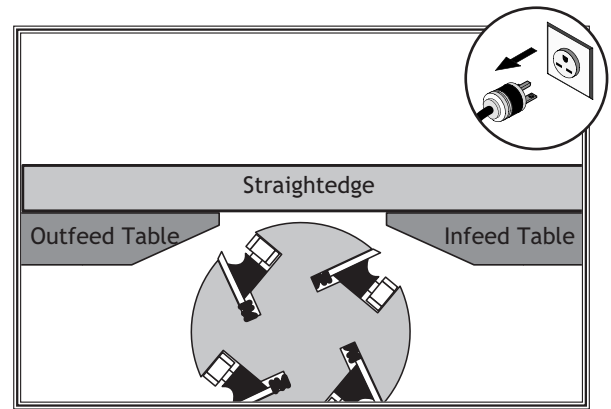

Figure 53. Infeed and outfeed tables set evenly.
3. Place the straightedge halfway across the infeed table and halfway over the outfeed table, and adjust the infeed table even with the outfeed table, as shown in **Figure 53**.
8. Place the straightedge halfway across both the infeed and outfeed tables, then adjust the infeed table even with the outfeed table (**Figure 53**).